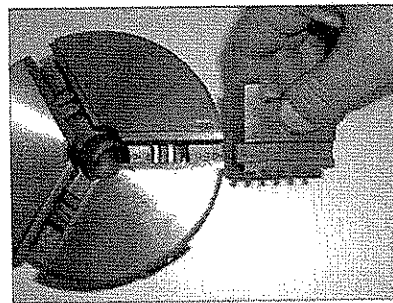

Fig. 34
7.11.8. Mounting the clamping jaws of the spindle chuck: Loosen the clamping slots with the chuck key until the lead thread appears. Put jaw No. 1 into jaw guide rails (as shown in Fig.34). Then, turn the chuck key clockwise until the lead thread comes into view again (while watching the counter-clockwise direction of the chuck), and put the jaw No.2 into the jaw guide rails. And then, mount the jaw No. 3 in turn.